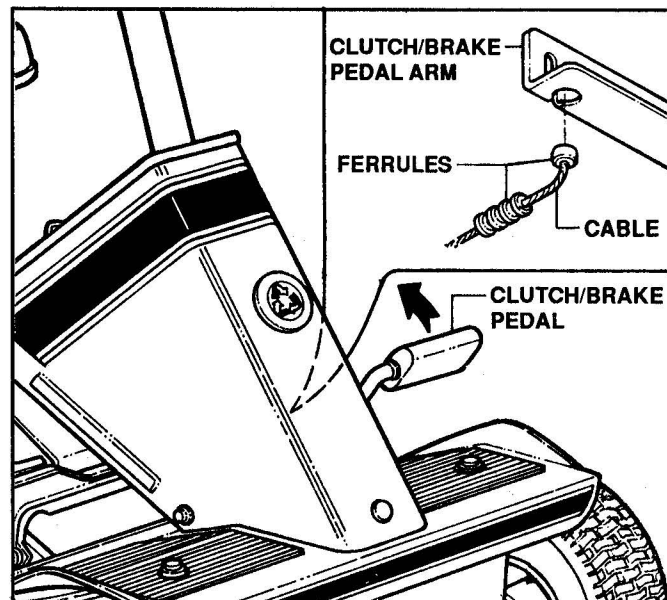

FIGURE 4.14
6. Pull clutch/brake pedal towards operator's seat and slide one ferrule from cable through the eye in the clutch/brake pedal arm. See Figure 4.14.